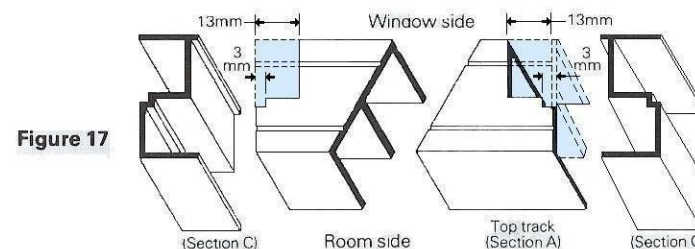

Figure 17
- d) Now cut out and discard 13mm corners including the middle leg of the channels, from each end of the window side channel of the top track (See Figure 17).
- e) Further notch out a 3mm x 3mm corner at each end of Section A to accommodate the small step in each side track (See Figure 17).